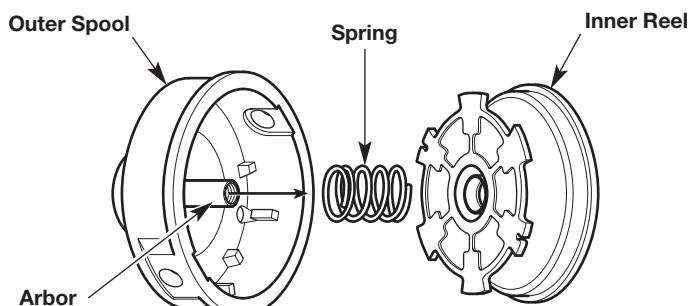

Fig. 28
- NOTE:** The outer spool (Fig. 28) will remain attached to the unit.
3. Remove the inner reel from the outer spool (Fig. 28).
4. Remove the spring from the inner reel (Fig. 28).